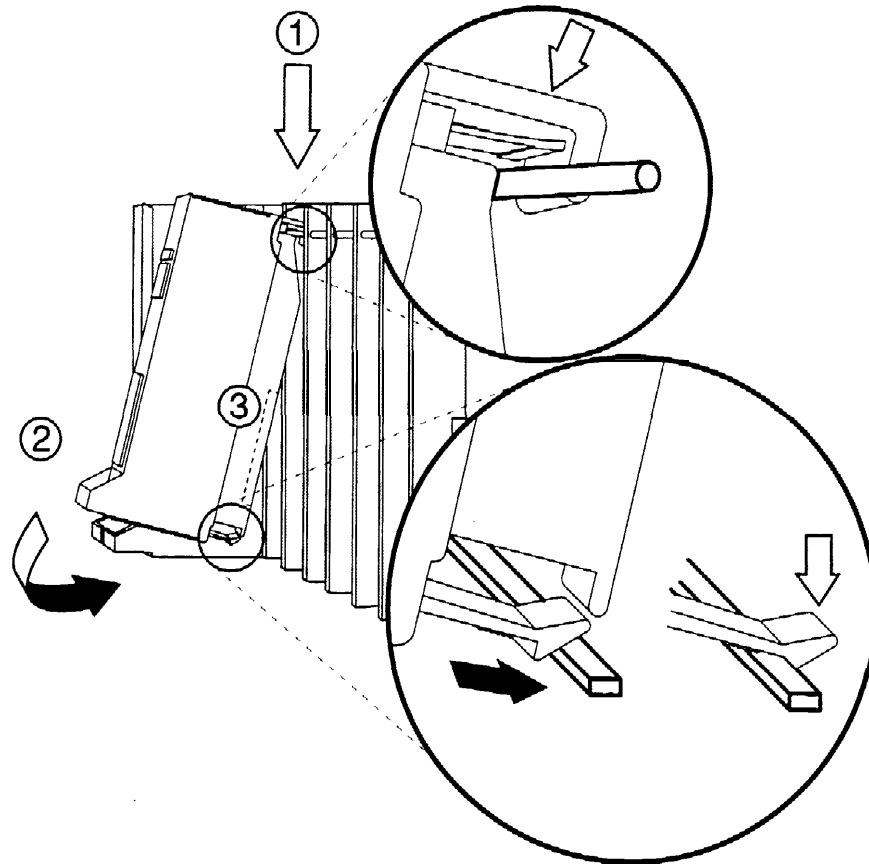

Figure 9-4. Replacing a Module in the Carrier
- 4 Reinstall the power supply module by hooking it onto the rod at the top of the carrier and then swinging it down into place. See Figure 9-4.**
- 11 Replace the processor module into the carrier. See Figure 9-4.